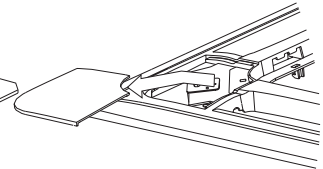

Fig. 5-11
- Wrench off the bolts, loose the rope of the installation covers, and remove them. (Refer to fig.5-11)